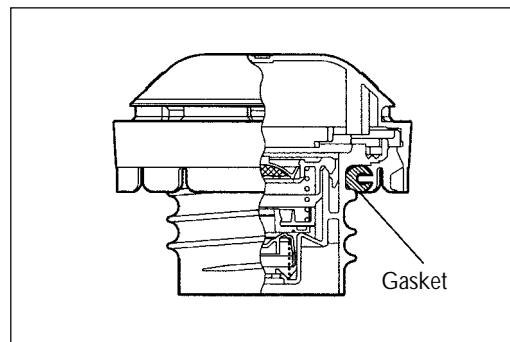

Figure 3-12
3. Check whether there is any distortion or damage on the filling cap and the washer (see Figure 3-12).